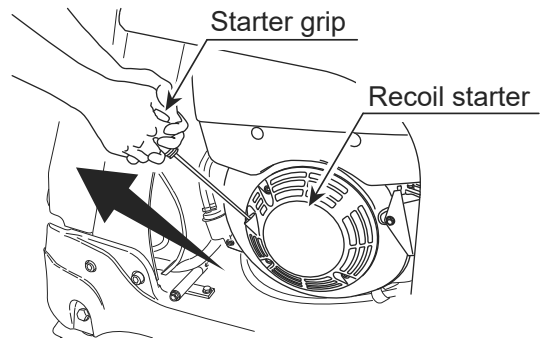

Fig.18
- 5 Hold the recoil starter grip, pull it hard to run the engine. Use two hands if necessary. be careful not to pull too hard, or the rope might break or come off. Allow the starter rope to slowly move back into the case while keeping the grip grabbed. (Fig.18)